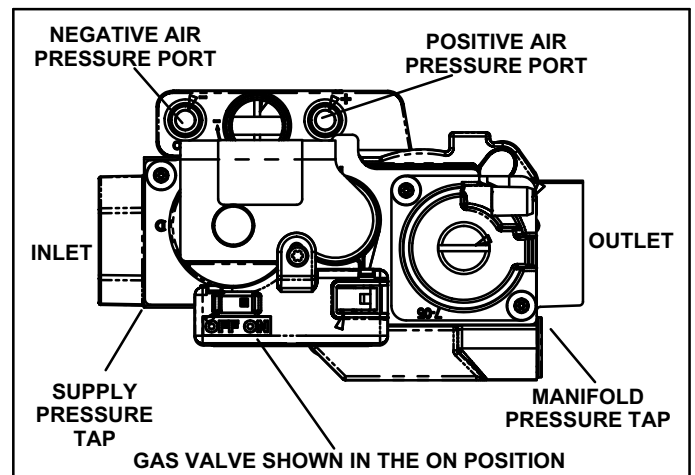

FIGURE 46
Gas Valve Operation (Figure 46)
- 6 - Move the gas valve switch to the **OFF** position. See figure 46.
- 8 - Move gas valve switch to the **ON** position. See figure 46. Do not force.
When testing supply gas pressure, connect test gauge to supply pressure tap on the gas valve. See figure 46. Check gas line pressure with unit firing at maximum rate. Low pressure may result in erratic operation or underfire. High pressure can result in permanent damage to gas valve or overfire. See table 28 for operating pressure at unit gas connection (line).